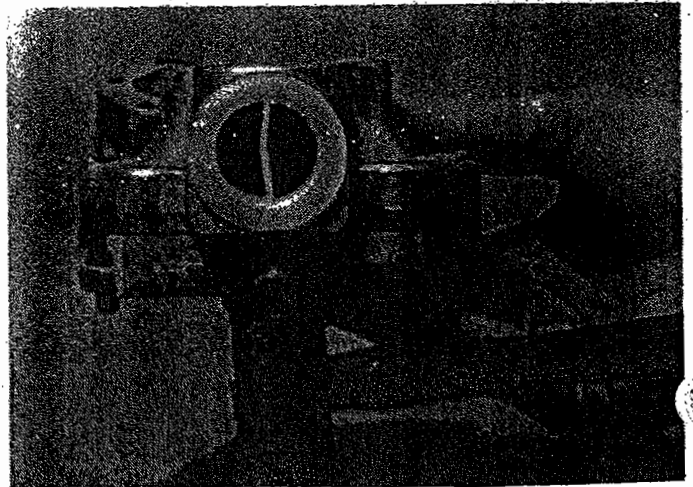

Fig. 8
9. Hold the gear plate (Item 2) and tap suction and discharge bosses on cover plate (Item 1) with a plastic hammer to loosen. (Fig. 8)